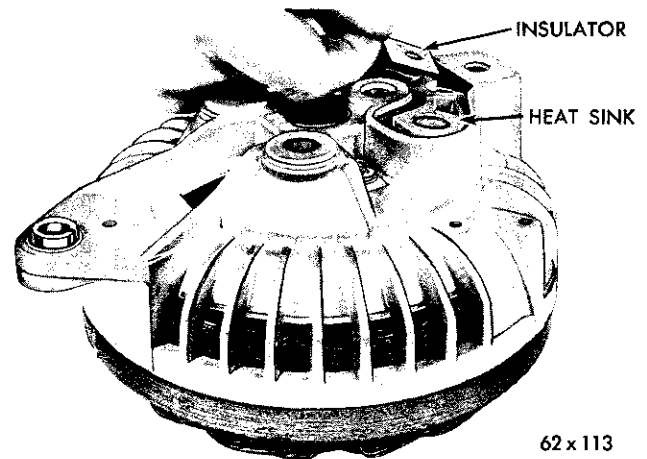

Fig. 28—Removing the Heat Sink Insulator
- (12) Remove the insulator (Fig. 28).
(10) The alternators have the capacitor mounted internally. Make sure the heat sink insulator is in place (Fig. 28).
(11) Install the output terminal screw and the capacitor through the heat sink and end shield.
(12) Install the insulating washers, lockwashers and lock nuts.
(13) Make sure the heat sink and insulator are in position and tighten the lock nut.
(14) Position the stator on the rectifier end shield.
(15) Position the rotor end shield assembly on the stator and rectifier end shield. Align the through bolt holes in the stator, rectifier end shield and drive end shield.
(16) Compress the stator and both end shields by hand and install the through bolts, washers and nuts.
(17) Install the insulated brush in the rectifier end. Place the bronze terminal on the plastic holder with the tab of the terminal in the recess in the plastic holder.
(18) Place the nylon washer on the bronze terminal and install the lockwasher and attaching screws.